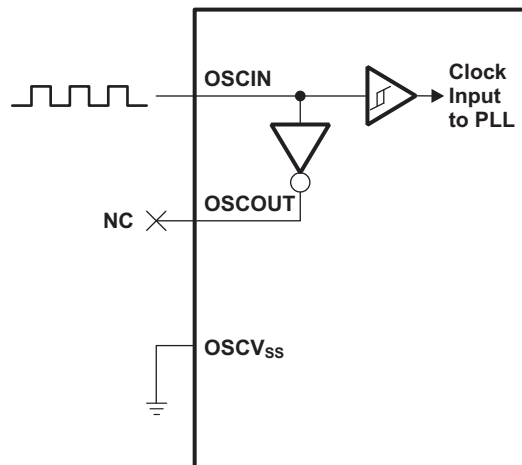

Figure 6-7. External 1.2V Clock Source
The C6745/6747 device includes two choices to provide an external clock input, which is fed to the on-chip PLL to generate high-frequency system clocks. These options are illustrated in Figure 6-6 and Figure 6-7. For input clock frequencies between 12 and 20 MHz, a crystal with 80 ohm max ESR is recommended. For input clock frequencies between 20 and 30 MHz, a crystal with 60 ohm max ESR is recommended. Typical load capacitance values are 10-20 pF, where the load capacitance is the series combination of C1 and C2.
- Figure 6-7 illustrates the option that uses an external 1.2V clock input.